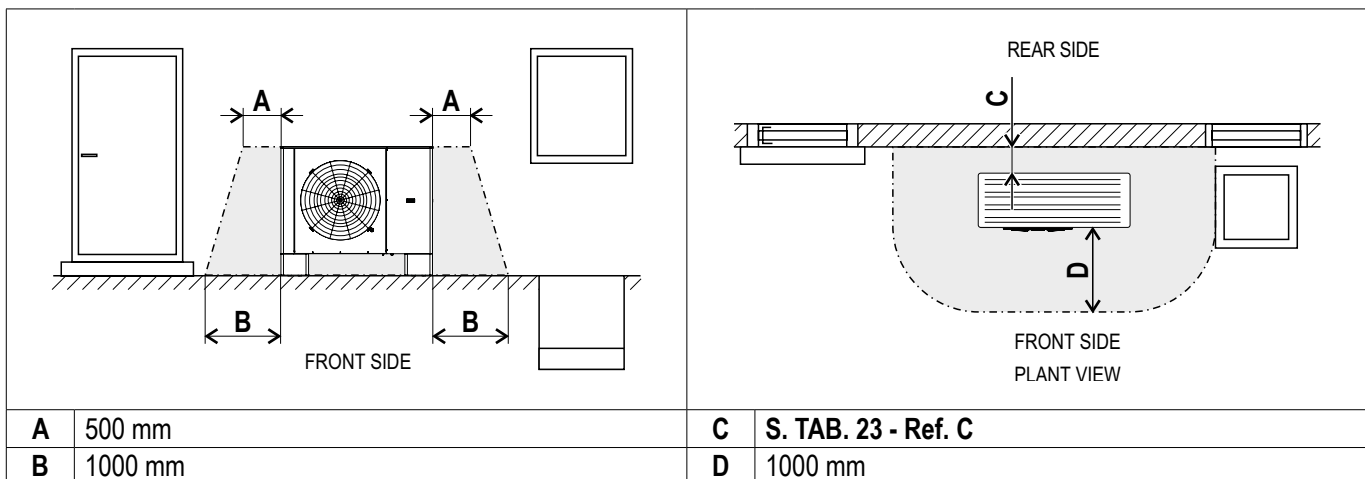

FIG. 36 (Safety zone for ground installation in front of a building wall)
- 1) Place a level (FIG. 36 -Ref. 1) in the longitudinal and transverse direction of the machine
- 2) Use the nuts (FIG. 36 -Rif. 2) to level the machine
- 1) Place a level (**FIG. 36 -Ref. 1**) in the longitudinal and transverse direction of the machine
- 2) Use the nuts (**FIG. 36 -Rif. 2**) to level the machine